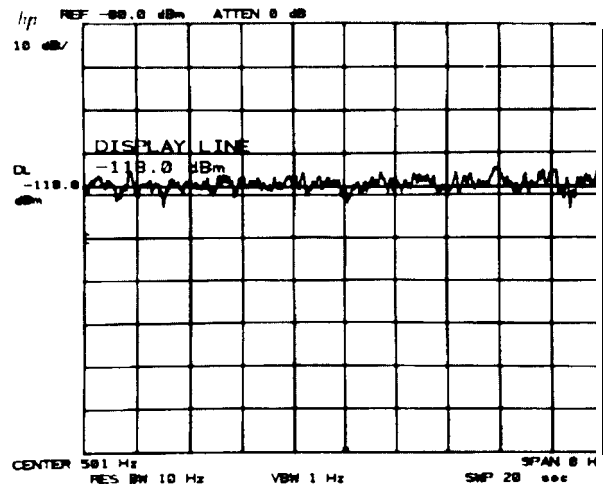

Figure 2-23. Average Noise Level Measurement
8. Press DISPLAY LINE **ENTER**. Using DATA knob, place display line at the apparent average amplitude of the noise trace (see Figure 2-23).